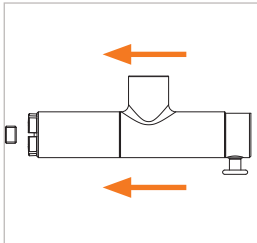

Figure 10
- ▶ With the valve button (Pos. 4) pressed, insert the connector straight onto the test piece until the front seal (Pos. 7) touches the test piece (Figure 10). Doing so will prevent any damage to the front seal caused by any sharp edges on the test piece and ensure a correct connection.